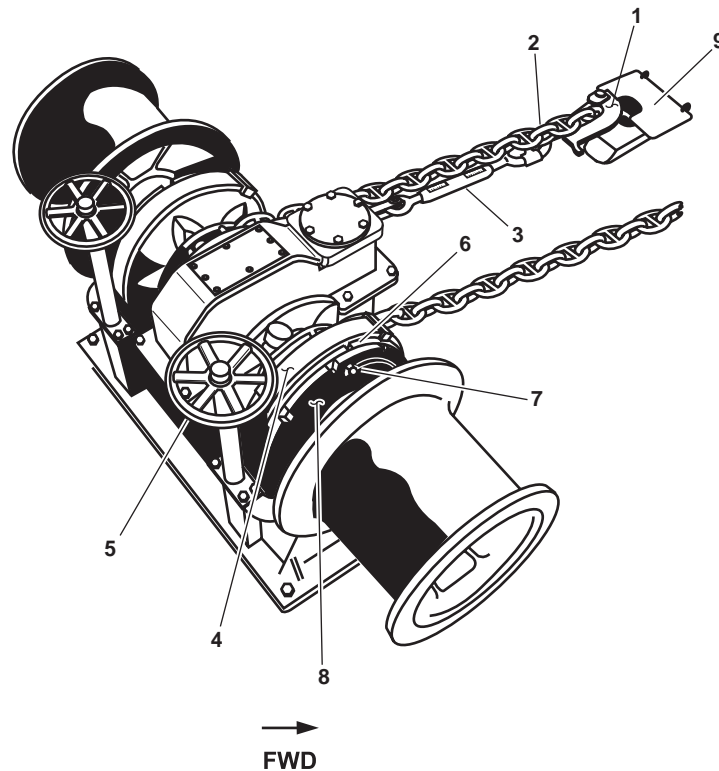
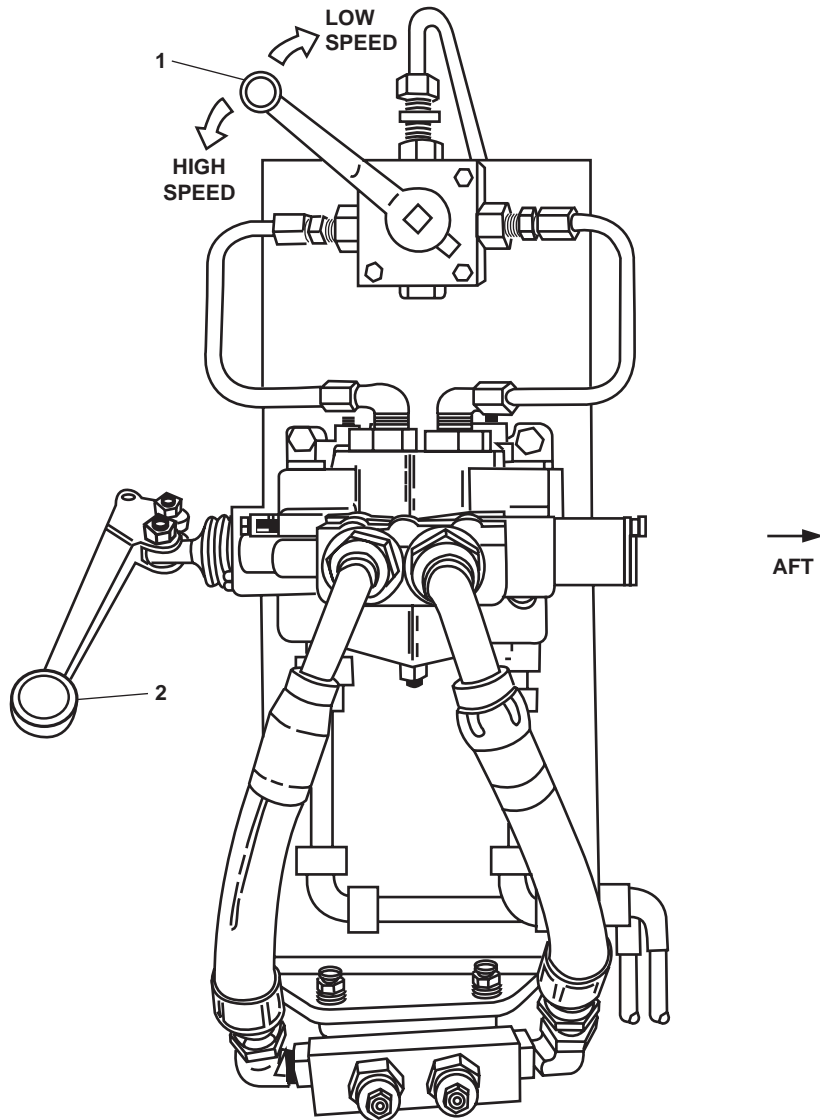

Figure 1. Anchor Windlass
Figure 2. Anchor Windlass Control Station
1. Verify that the pelican hooks (figure 1, item 1) are secured to the anchor chain (figure 1, item 2) and that the pelican hook turnbuckles (figure 1, item 3) are tight.
2. Set both anchor windlass brakes (figure 1, item 4) by turning the anchor windlass brake handwheels (figure 1, item 5).
2. Engage the dog clutch (figure 1, item 6) by performing the following steps:
- b. Loosen both wing nuts (figure 1, item 7) on the face of the shifter ring (figure 1, item 8).
- c. Verify that the anchor windlass brake (figure 1, item 4) is set by rotating the anchor windlass brake handwheel (figure 1, item 5) fully clockwise.
- d. Verify that the pelican hooks (figure 1, item 1) are secured to the anchor chain (figure 1, item 2) and that the pelican hook turnbuckles (figure 1, item 3) are tight.
- e. Set the two-speed control lever (figure 2, item 1) to LOW SPEED.
- f. Operate the RAISE-LOWER control (figure 2, item 2) until the slots in the dog clutch (figure 1, item 6) are aligned with the slots in the shifter ring (figure 1, item 8).
- g. Insert the dog clutch tool in the nearest slot that is aligned with the dog clutch (figure 1, item 6) and the shifter ring (figure 1, item 8).
- h. Push the dog clutch tool forward to engage the dog clutch (figure 1, item 6).
- i. Tighten both wing nuts (figure 1, item 7) on the face of the shifter ring (figure 1, item 8).
3. Select the desired speed by setting the two-speed control lever (figure 2, item 1) to the desired speed.
4. Swing the hawsepipe cover plate (figure 1, item 9) clear of the hawsepipe opening and remove the pelican hook (figure 1, item 1) from the anchor chain (figure 1, item 2) by loosening the pelican hook turnbuckles (figure 1, item 3).
6. To raise or lower the anchor chain (figure 1, item 2), move the RAISE-LOWER control (figure 2, item 2) to the desired position.